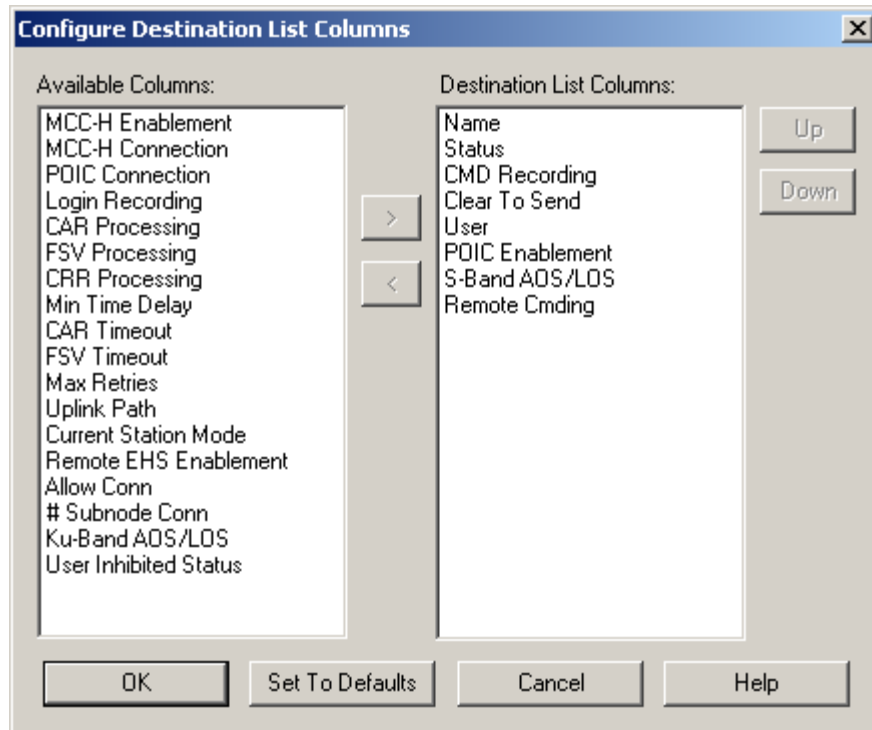

Figure 4 Configure Destination List Columns
2. Go to the **View** menu and select the **Configure Destination List Columns** menu item. The dialog shown in Figure 4 is displayed.